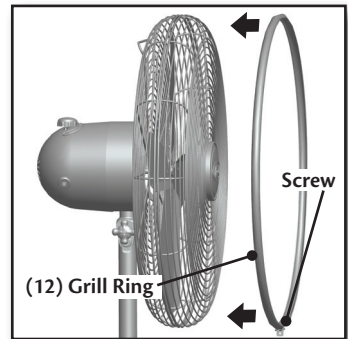

Figure 16.
3. Slide the Grill Ring over both Front(11) and Back(9) Grills turning it so the screw that will secure it is on the bottom. Figure 16.